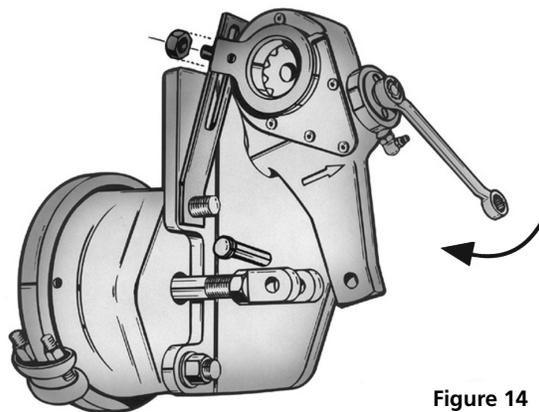

Figure 14
- Install the brake adjuster onto the camshaft with the adjusting hex pointing away from the brake chamber as illustrated in Figure 14.